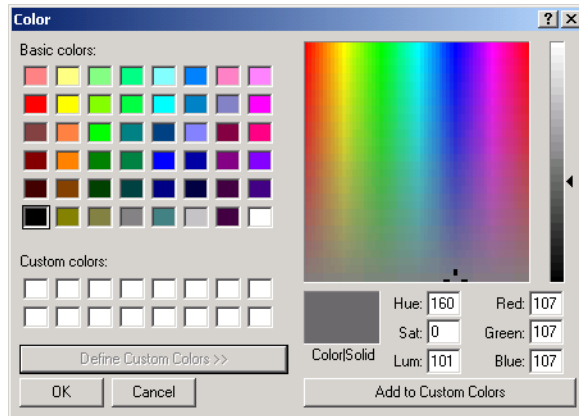

Figure 5-25. Defining Custom Colors
6. Click the **Define Custom Colors** button. The Colors Dialog box expands, as shown in Figure 5-25.